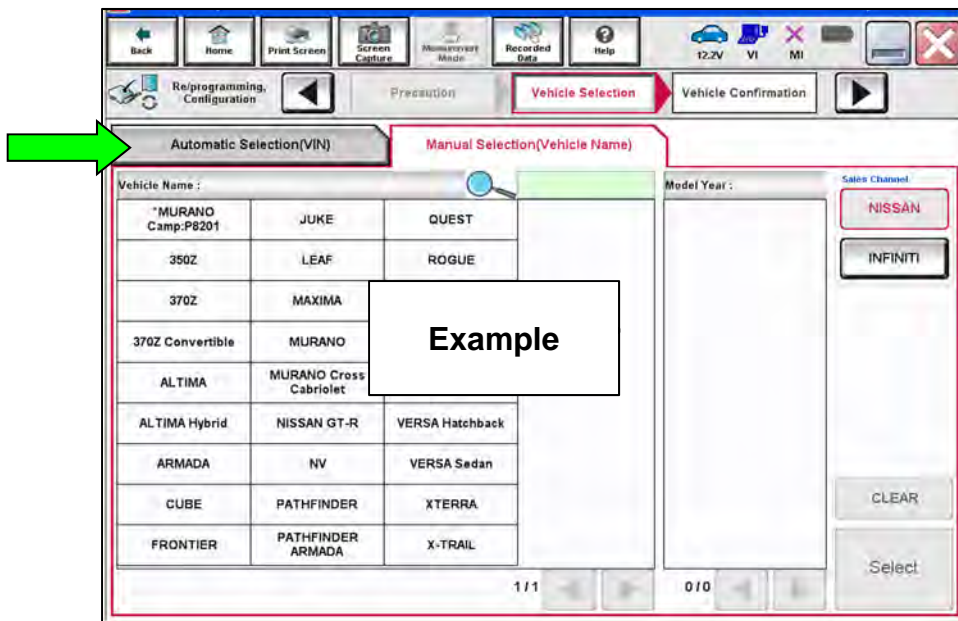

Figure 234
219. If the screen in Figure 234 displays, select **Automatic Selection(VIN)**.
- If the screen in Figure 234 does not display, continue to step 220.